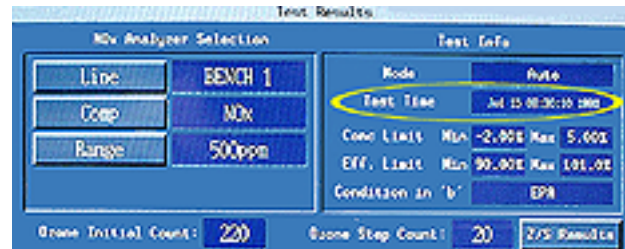

Figure 33
- 140 On the “NOx Efficiency Menu” subpanel, click on “Test Results.” On the "Test Results" Panel, verify that the date and time are correct. See the circle in Figure 33.